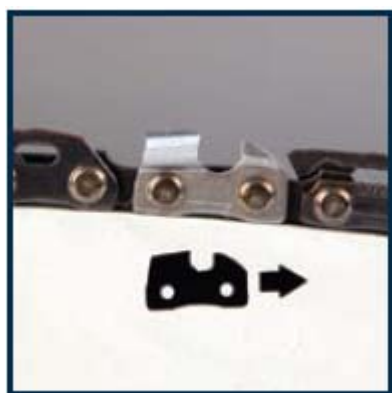

Fig.5
- 3) Put the chain on the bar, beginning from the top, ensure cutter teeth are facing direction of chain rotation. Fig.5